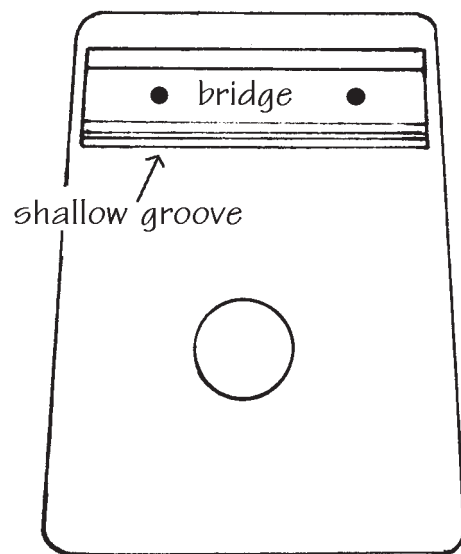

FIG. 10
- ___10. Check carefully the correct position for the hardwood BRIDGE. The holes should line up with those drilled through the TOP, and the edge with the shallow groove should face the SOUNDHOLE. Trim the length of the BRIDGE, if necessary, so it does not hang over the sides of the instrument. (fig. 10)